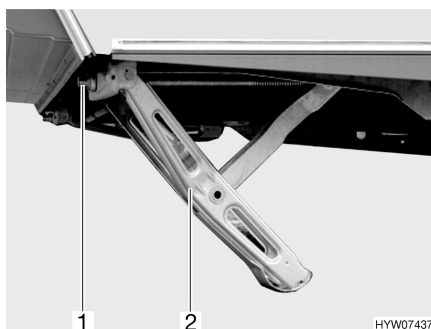

Fig. 8 Corner steady cranked down
- Place the hand crank provided as standard on the hexagonal nut (Fig. 8,1) of the corner steady (Fig. 8,2).